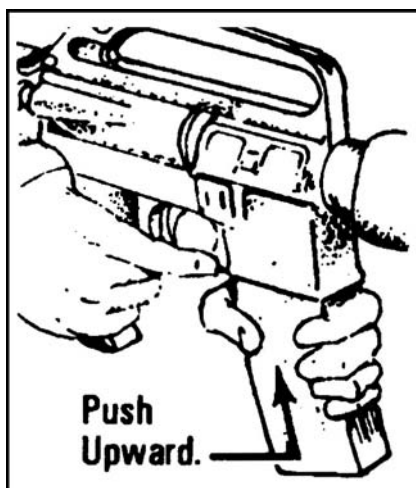

Figure 3. Magazine inserted.
- f. Insert the magazine, pushing it upward until the magazine catch engages and holds the magazine (Figure 3).
- m. Insert the magazine, pushing it upward until the magazine catch engages and holds the magazine (Figure 3).